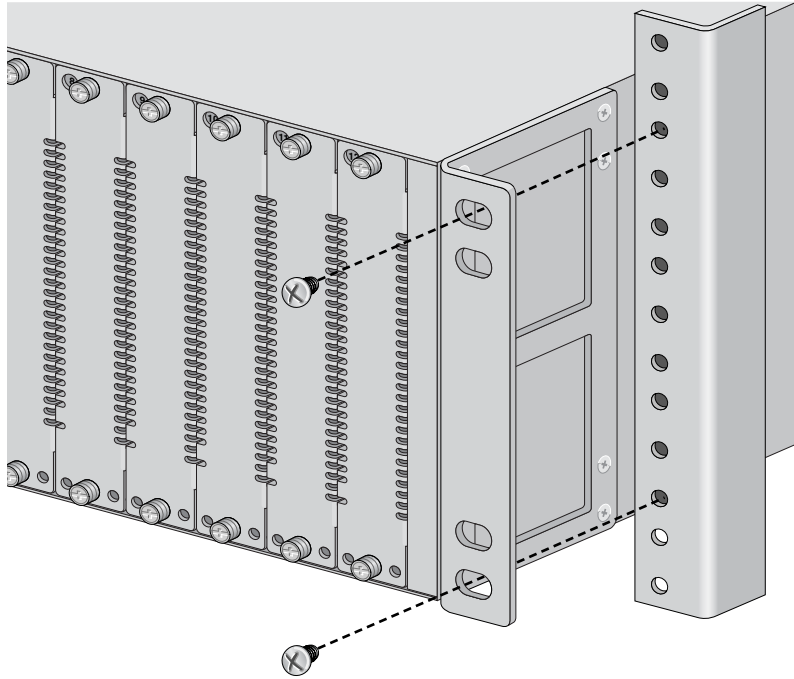

Figure 9 Installing the Chassis in a Rack
3. Attach the chassis to the rack with two screws (not provided) on each side. Refer to Figure 9 on page 15.